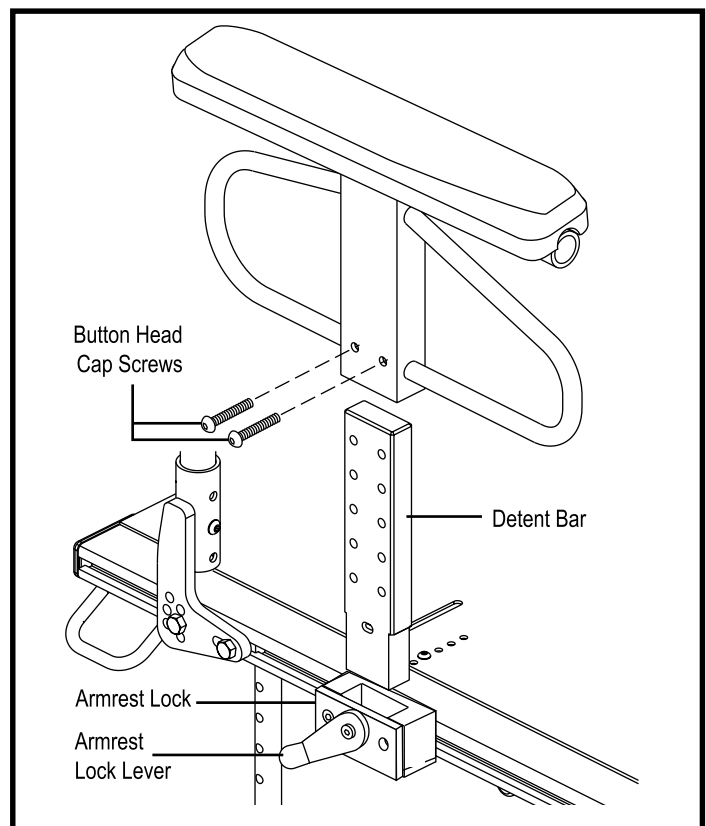

Figure 12. Armrest Height Adjustment
1. Rotate the armrest lock lever rearward and remove the armrest from the armrest lock. See figure 12.
2. Remove the two (2) button head cap screws from the side of the armrest.